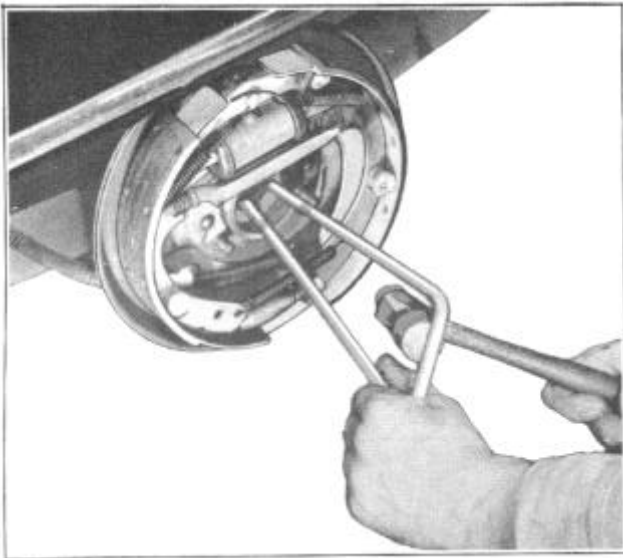

FIGURE 11
7. Remove axle shaft inner oil seal, using tool J-943. See Figure 11.